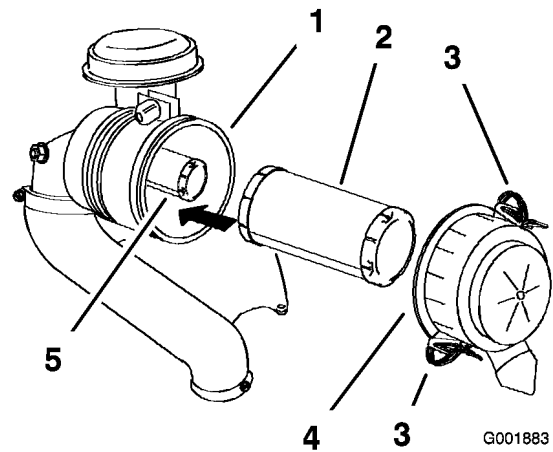

Figure 31
- Release the latches on the air cleaner and pull the air cleaner cover off the air cleaner body (Figure 31).
- Gently slide the primary filter out of the air cleaner body (Figure 31).